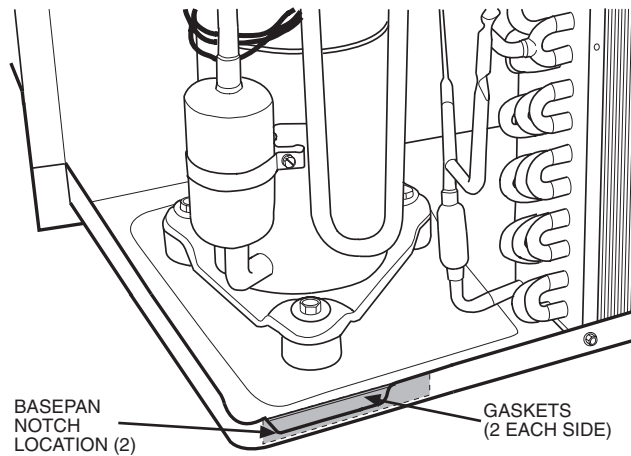

Fig. 3 — Install Gaskets onto Basepan
6. Install foam gaskets (included in kit) on the basepan as shown in Fig. 3. You will need to apply two gaskets to each side of the back of the basepan where it is notched. There are 2 notches on back of basepan. Place one foam gasket on each side of each notch with the adhesive backings facing each other. Make sure the gaskets cover the entire opening to prevent any